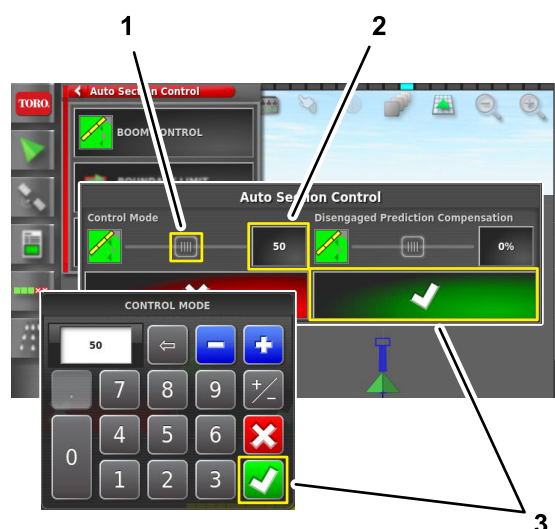

Figure 108
3. Adjust control mode setting (Figure 108) as follows:
- Press the VALUE icon, enter a value with the on-screen keypad, and press the confirm icon (Figure 108).
- Slide the on-screen slider left or right (Figure 108).